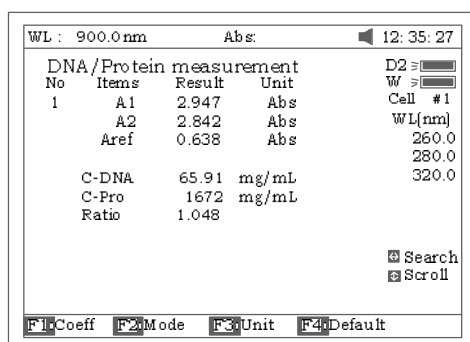

Fig 65
5. Pull the sample cuvette into main light path, press **【START】** to test the sample. The test result will be displayed on the screen (Fig 65).